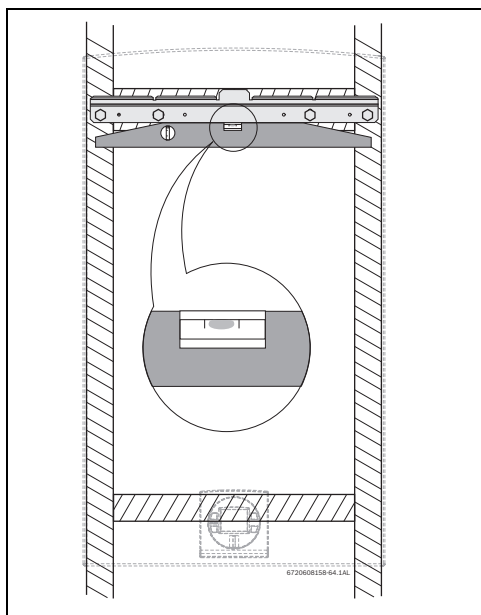

Fig. 28 Leveling wall mounting bracket
- ▶ Secure the wall mounting bracket provided with the heater to a wall surface. The heater must be kept level on the wall surface, see fig. 28, page 36.